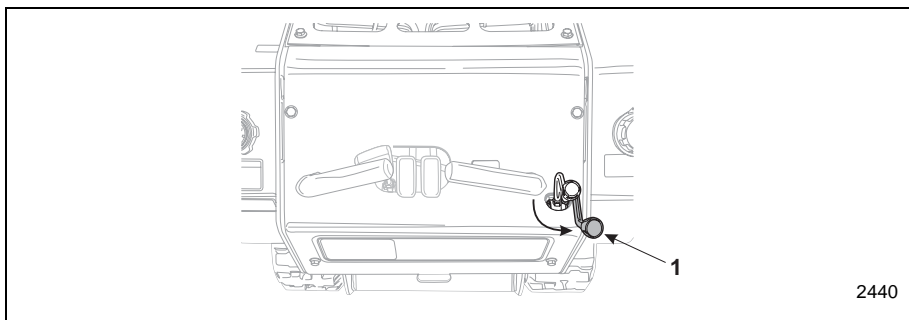

Figure 3–19 Trencher Chain Control Lever in Forward Position
5. Using the boom lower control, slowly rotate the trencher boom downwards until it makes contact with the ground. See Figure 3–20. Continue to slowly lower the trencher boom, but do not move the machine.